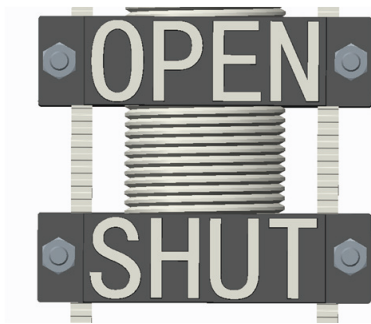

Figure 6
- 2.4 Adjust the distance (number of teeth) between SHUT and OPEN, as shown in Figure 6, to ensure that the two "SHUT" planes are evenly located on both sides of the target frame. See Table 3 for specific specifications and the number of teeth.